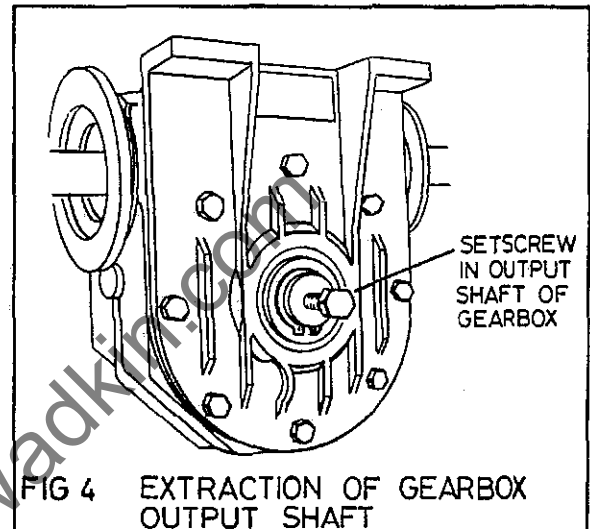

FIG 4 EXTRACTION OF GEARBOX OUTPUT SHAFT
#### Replacing Bottom Feed Roller Shaft Bearings (Fig 4 and 5)
- 5) The output shafts of the 'siti' gearboxes which connect to the universal couplings have a 10mm tapped hole in the face. Insert a setscrew to full thread depth of each in turn and use this to extract the output shaft approximately 50mm (see Fig 4).
- 6) With the universal couplings (4) free at the gearbox end slide the P.V.C. boot (2) off each shaft. Ease the universal coupling of the feed roller shafts taking care not to separate the two halves of each coupling.
- 7) Isolate air supply and then disconnect air pipes from cylinders (7).
- 8) Unscrew the four capscrews holding the swing bracket (8) and remove complete with swings, shafts etc. to a bench.
- 9) There is no need to separate the individual swings from the swing bracket unless to renew the bronze bushes (9).